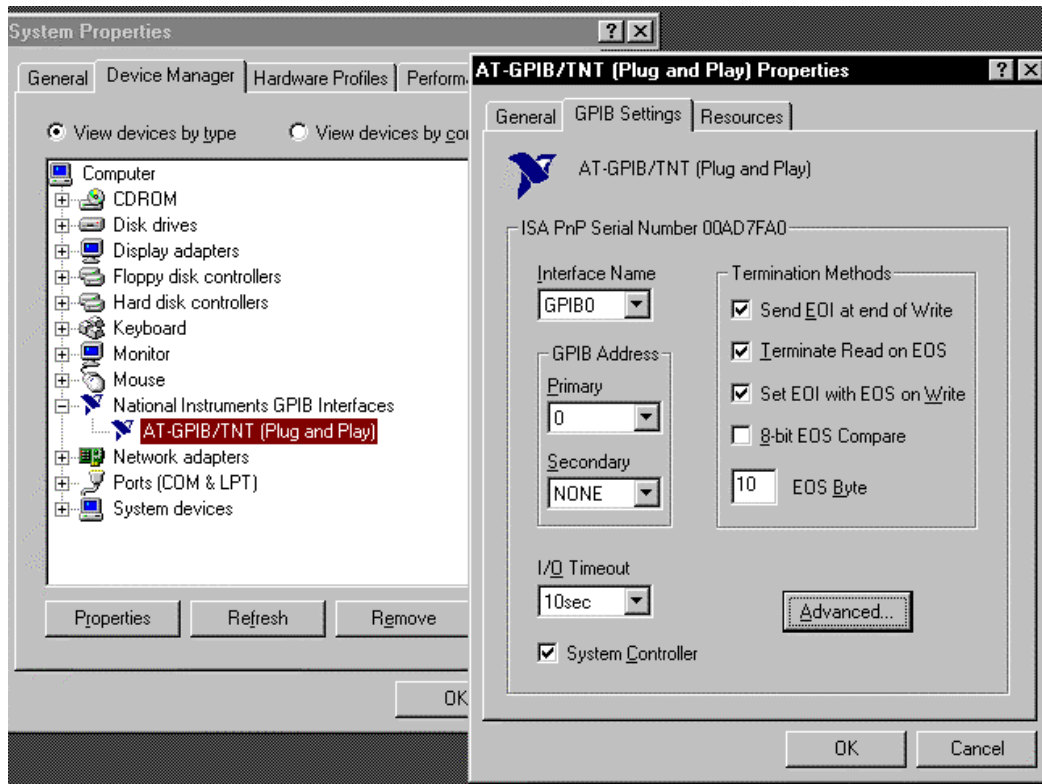

Figure 6-1. GPIB Setting Configuration
4. Configure the GPIB by selecting the System icon in the Windows 98/95 Control Panel located under Settings on the Start Menu. Configure the GPIB Settings as shown in Figure 6-1. Configure the DEV12 Device Template as shown in Figure 6-2. Be sure to check the Readdress box.